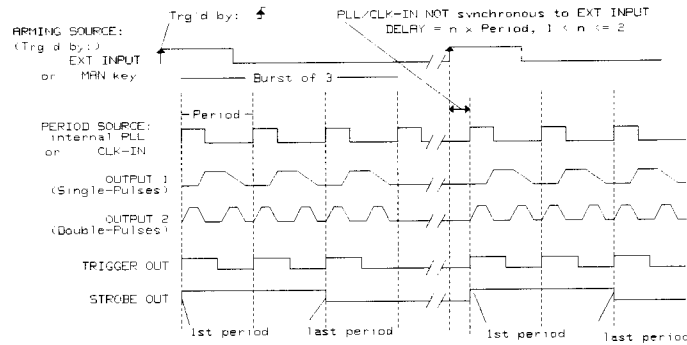

Figure 3-10.
- internal PLL (Higher accuracy, start of burst not synchronized to trigger, see Figure 3-10)
- internal PLL (Higher accuracy, start of pattern not synchronized to trigger, see Figure 3-10)